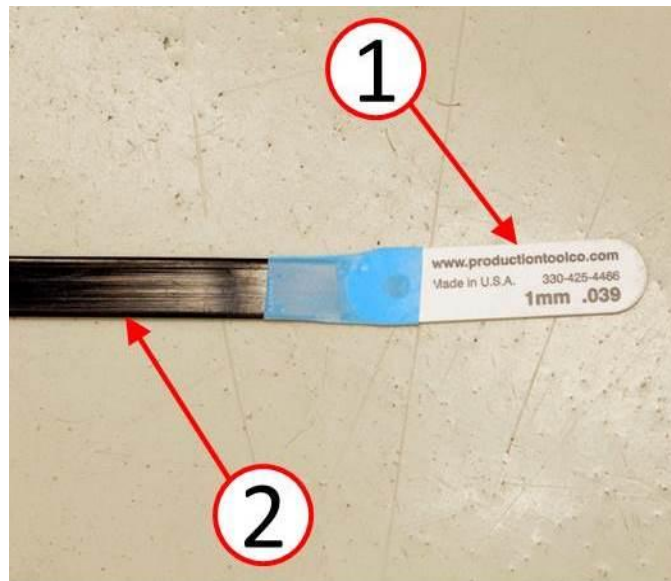

Fig. 14 Feeler Gauge With Temporary Extension
21. Use a 1.0 mm (0.04 in.) non-marring feeler gauge (1) to check for clearance between the underside of the vehicle roof and topside of the sunroof glass. Depending on the feeler gauge used, it may be necessary to tape a temporary extension handle (2) to the feeler gauge in order to reach to the back edge of the sunroof glass. The temporary handle must be made of a non-marring material of thinner dimension than the 1.0 mm (0.04 in.) feeler gauge (Fig. 14).